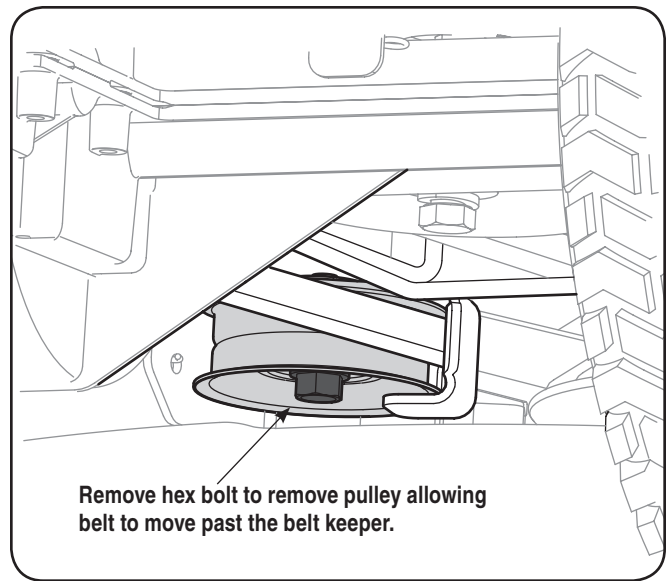

Figure 7-6
6. Remove the idler pulley by removing the hex bolt on the bottom side of the pulley. See Fig. 7-6.